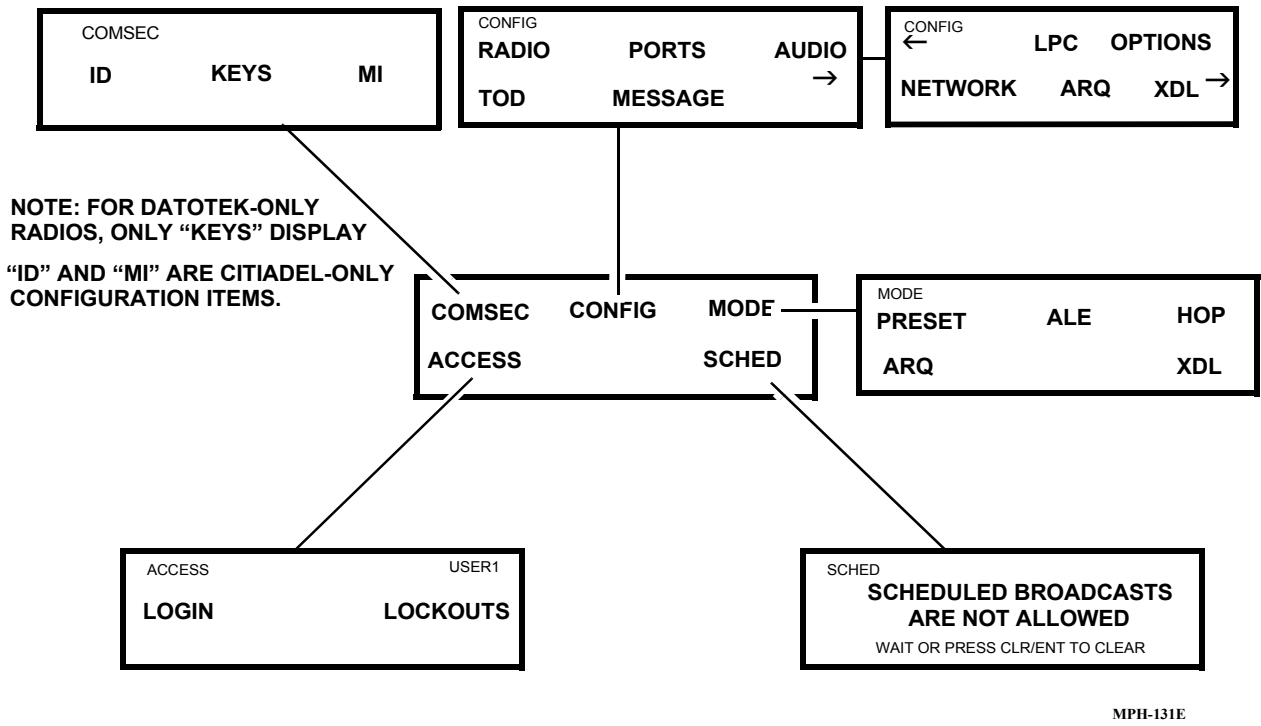

Figure 4-1. Programming Menus
- c. Figure 4-1 shows the program menu, and identifies what areas of radio programming are accessed from each menu.